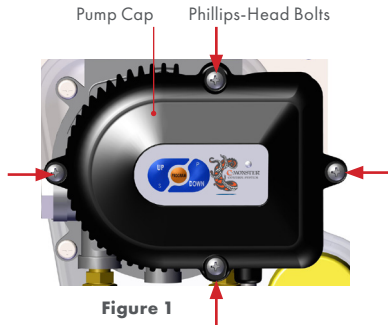

Figure 1
2. Using a Phillips-Head Screwdriver, unscrew the (4) **Phillips-Head Bolts** that attach the **Pump Cap** to the **Motor Assembly**. **FIG 1**